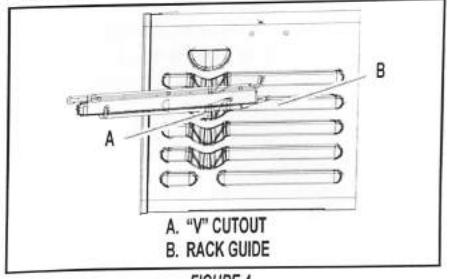
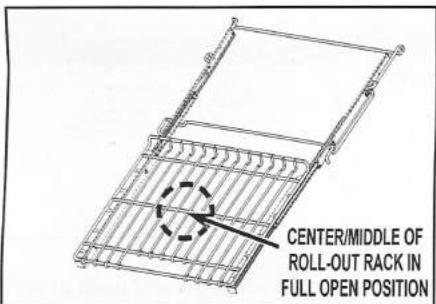

FIGURE 4
FIGURE 6
13. Raise rack assembly to flat position and gently push to the back of the oven until the back edge of the sliding rail drops. See Figure 4.
15. With the roll-out rack in either position 5 or 3 (see Figure 4), extend rack to full open position. See Figure 6.
17. Attach force gauge hook on the center/middle of roll-out rack in full open position. Center of the rack is 8 times over from the side. See Figure 6.